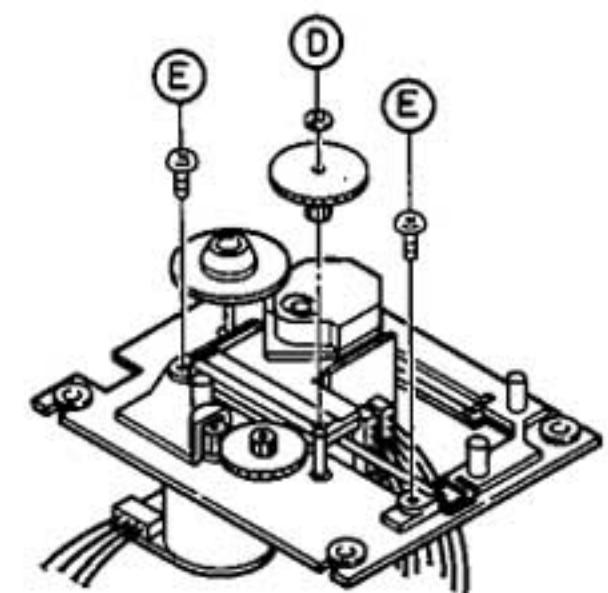

Figure 9
4. Remove washer **D** holding the gear and remove the gear. (See Figure 9)
5. Remove two screws **E**. (See Figure 9)